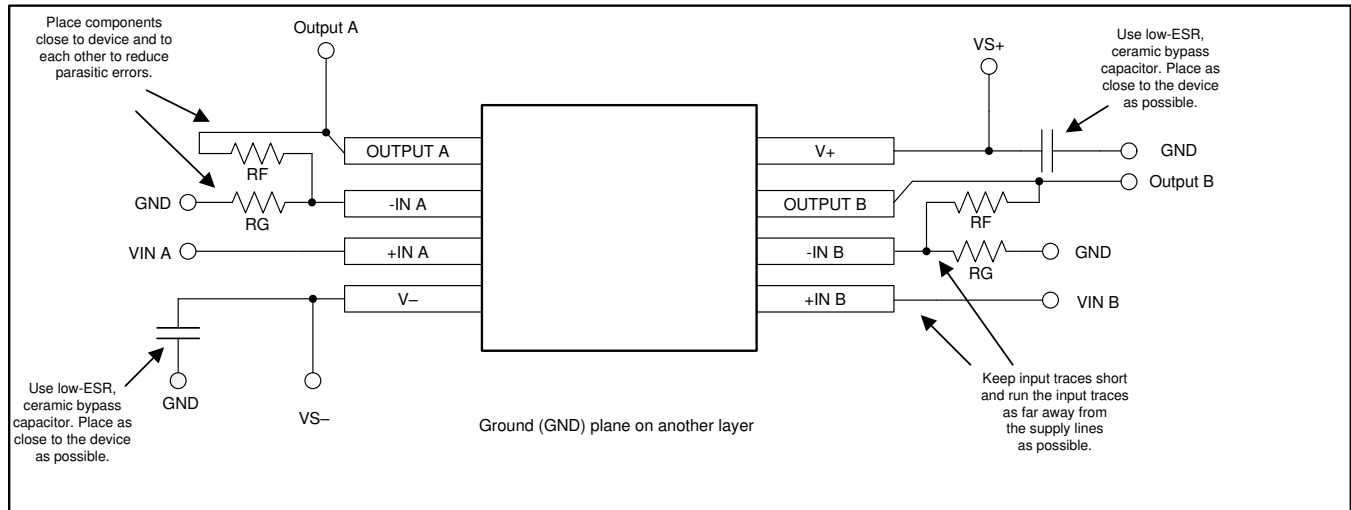

Figure 38. Operational Amplifier Board Layout for Noninverting Configuration
- Place the external components as close to the device as possible. As shown in Figure 38, keeping R_F and R_G close to the inverting input minimizes parasitic capacitance.